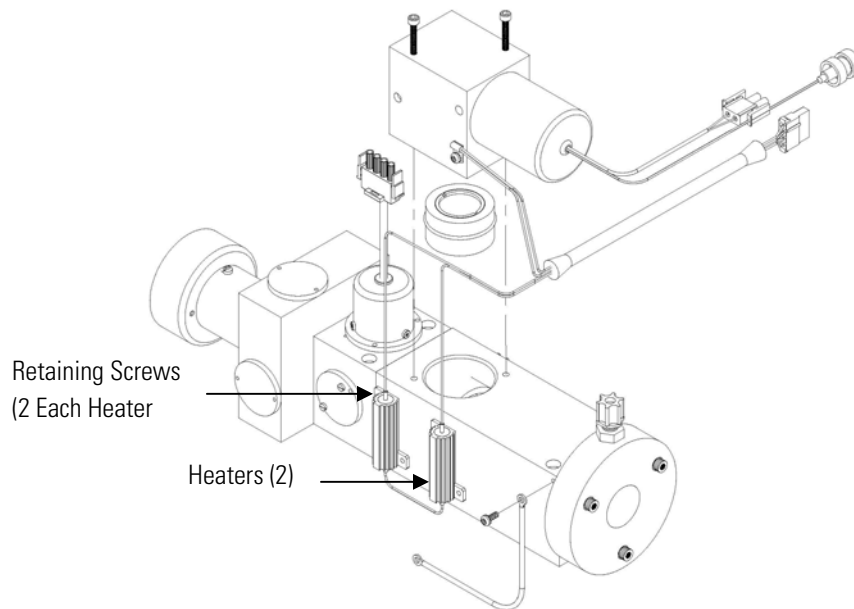

Figure 7-15. Replacing the Heater Assembly
Use the following procedure to replace the heater assembly (**Figure 7-15**).
- Remove two retaining screws and washers from each heater and remove the heaters (**Figure 7-15**).